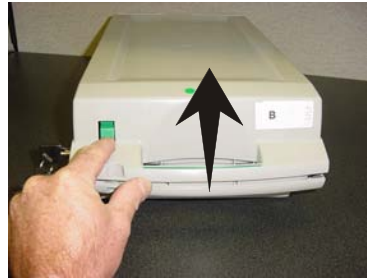

Figure 4-8. Release button.
- Insert the key into the cassette lock. (Figure 4-7) To unlock the cassette, apply inward pressure on the key while turning it clockwise to the stop position (approximately a quarter-turn). Open the cassette by simultaneously pressing the release button and lifting the lid. Flip the lid back fully, allowing it to rest on the table or other flat surface. (Figure 4-8)